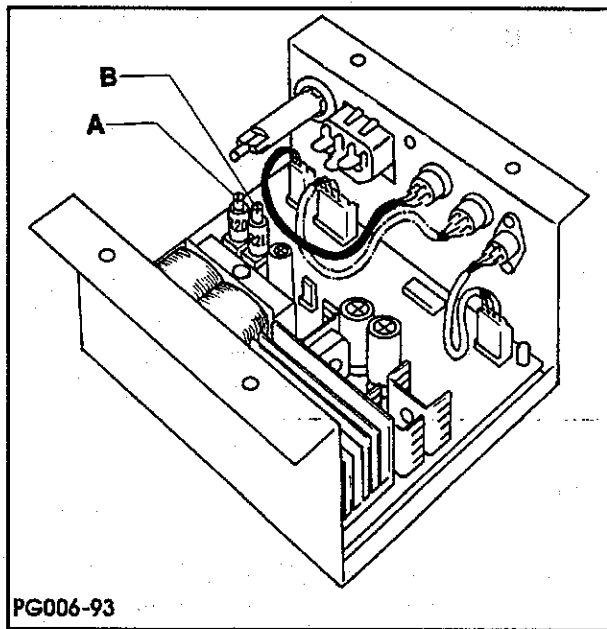

FIG. 21
3. Potentiometer R20 (A Fig. 21) controls the stepping motor current while stepping. If the elastic is not consistent throughout the speed cycle (slow speed to high speed) the current should be increased by turning Potentiometer R20 (A) clockwise, generally in 1/8 turn increments, until the desired look is obtained.
- Potentiometer R21 (B, Fig. 21) controls the stepping motor current while at rest and should not allow the elastic to be pulled back through the rollers before the next garment is started. If the elastic pulls back through the rollers when the stepping motor is at rest the current should be increased by turning Potentiometer R21 (B) clockwise, generally in 1/8 turn increments, until the desired holding of the elastic is obtained.